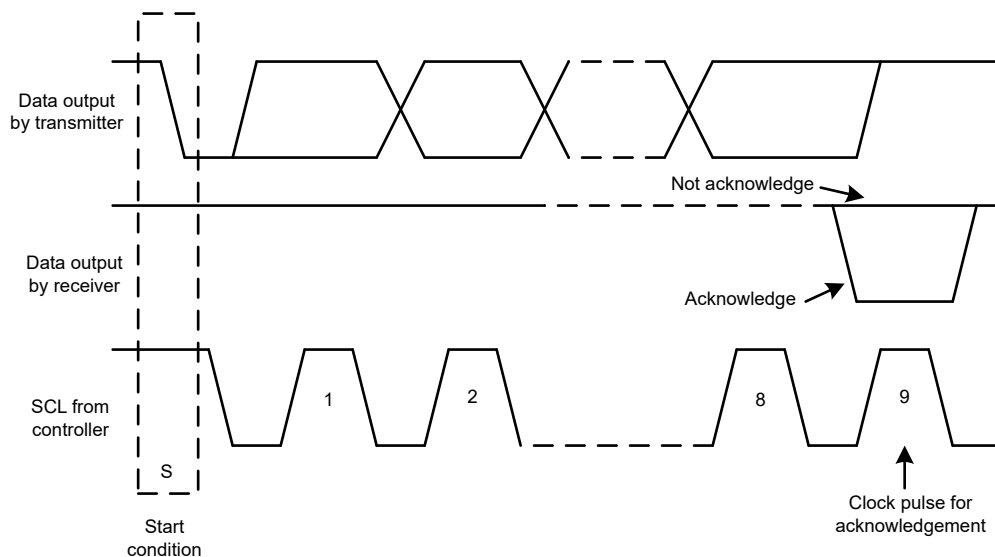
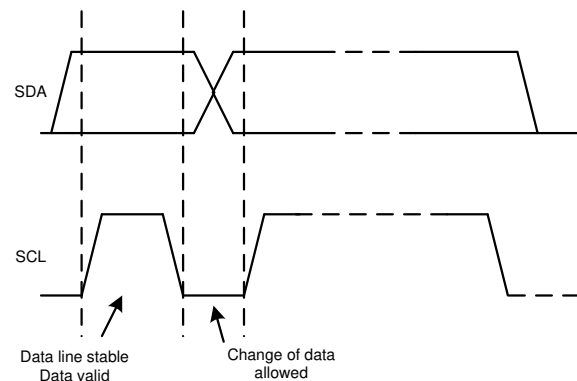

图 7-3. Acknowledge and Not Acknowledge on the I²C Bus
图 7-5. Bit Transfer on the I²C Bus
Other than specific timing signals, the I²C interface works with serial bytes. At the end of each byte, a ninth clock cycle generates and detects an acknowledge signal. An acknowledge is when the SDA line is pulled low during the high period of the ninth clock cycle. Figure 7-3 shows that a not-acknowledge is when the SDA line is left high during the high period of the ninth clock cycle.
2. The controller then generates the SCL pulses, and transmits the 7-bit address and the read/write direction bit ($\overline{R/W}$) on the SDA line. During all transmissions, the controller makes sure that data are valid. 图 7-5 shows that a valid data condition requires the SDA line to be stable during the entire high period of the clock pulse. All devices recognize the address sent by the controller and compare the address to the respective internal fixed address. Only the target device with a matching address generates an acknowledge by pulling the SDA line low during the entire high period of the 9th SCL cycle (see 图 7-3). When the controller detects this acknowledge, the communication link with a target has been established.